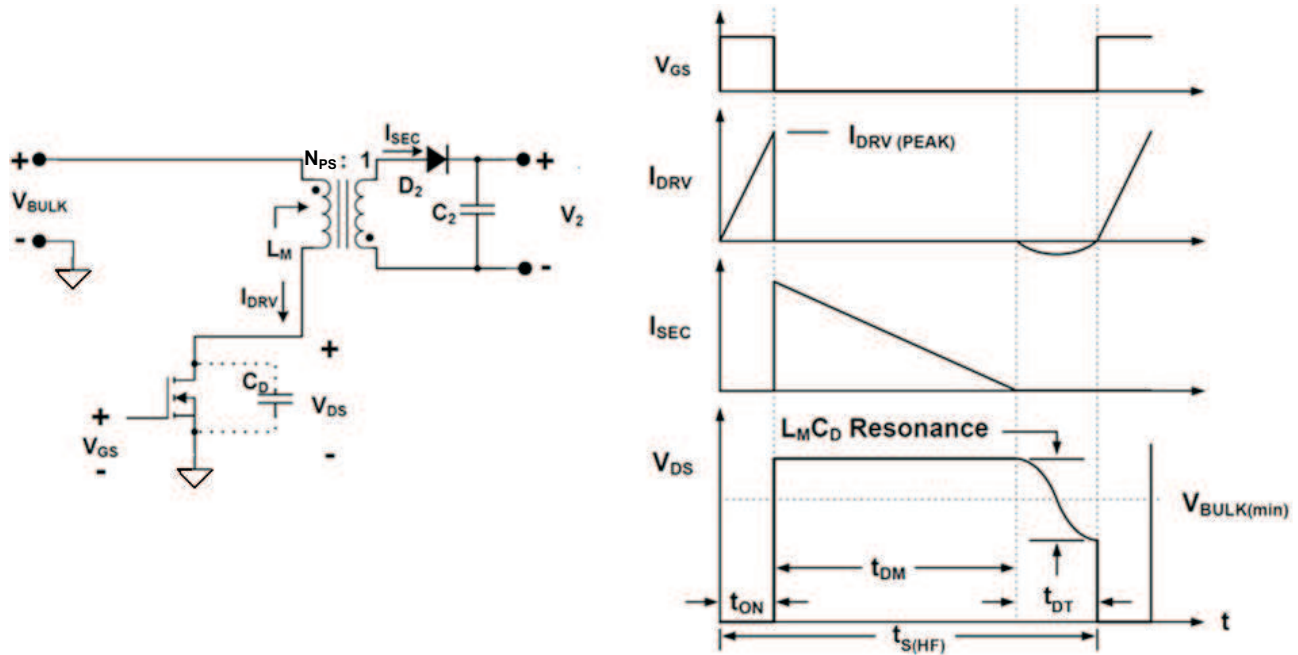

Figure 35. Basic Flyback Converter and Waveforms at Peak Load and Minimum V_{BULK} Voltage
The minimum switching period is when the converter is operating in the Frequency Modulation (FM) mode, referred to as $t_{S(HF)}$. This switching period must equal the sum of the switching intervals at minimum input voltage, maximum load, as shown in Figure 35 and described in Equation 24. The switching intervals are t_{ON} , the conduction time of the MOSFET; t_{DM} the demagnetization time of the transformer and t_{DT} , the duration of the deadtime, equal to half of the resonant cycle, after the transformer is de-energized.